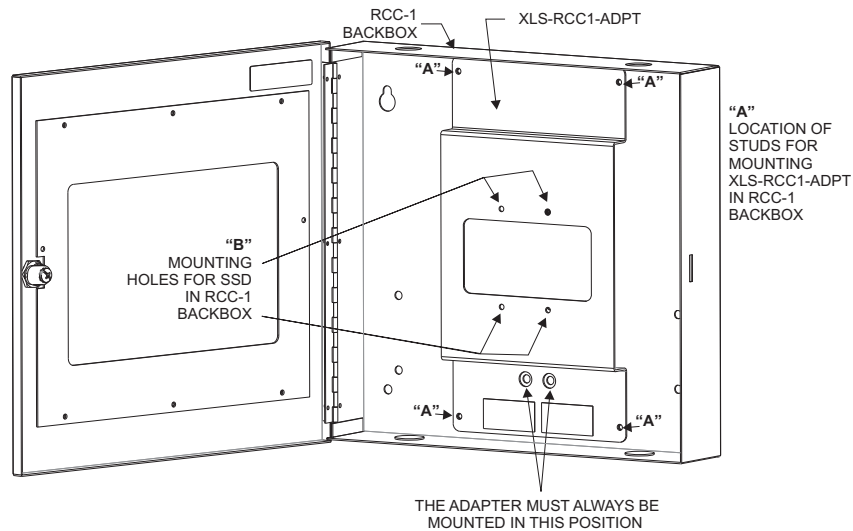

Figure 1
1. Place the XLS-RCC1-ADPT over the studs in the RCC-1 backbox. Refer to the locations marked "A" in Figure 1.
3. An SSD System Status Display can be mounted on the XLS-RCC1-ADPT using the locations shown in Figure 1 marked "B."